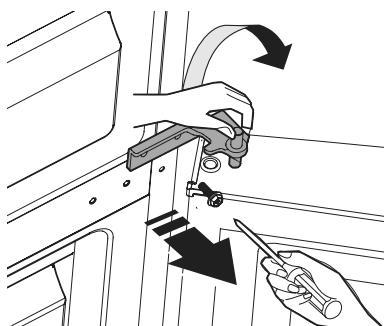

Figure 9
- 10 Remove the two screws from the center hinge and set hinge aside (see Figure 9).